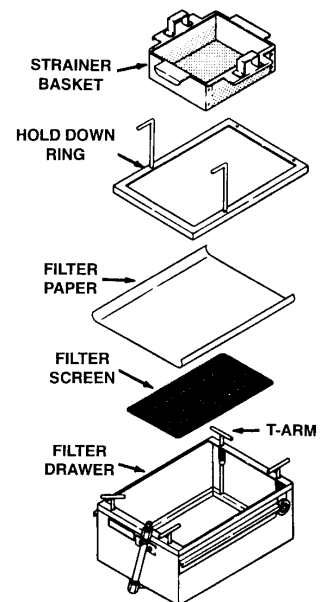

Figure 1.3: Assemble filter
3. Place in clean filter tub (See Figure 1.3):